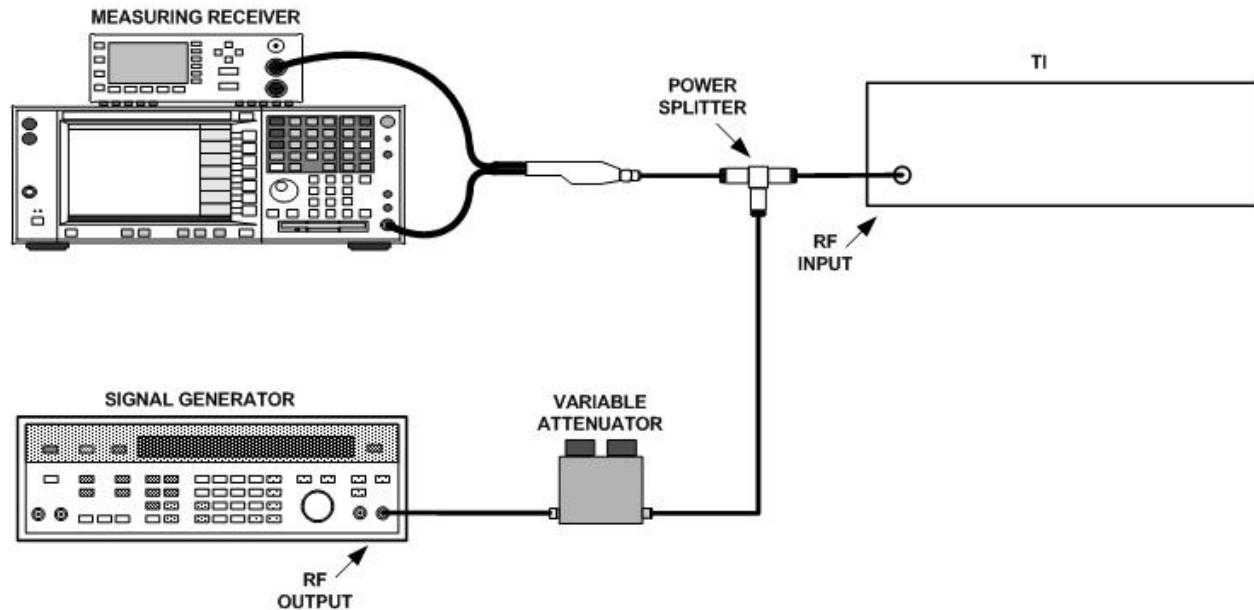

Figure 3. Input power and sensitivity - - equipment setup.
- (1) Connect equipment as shown in figure 3.